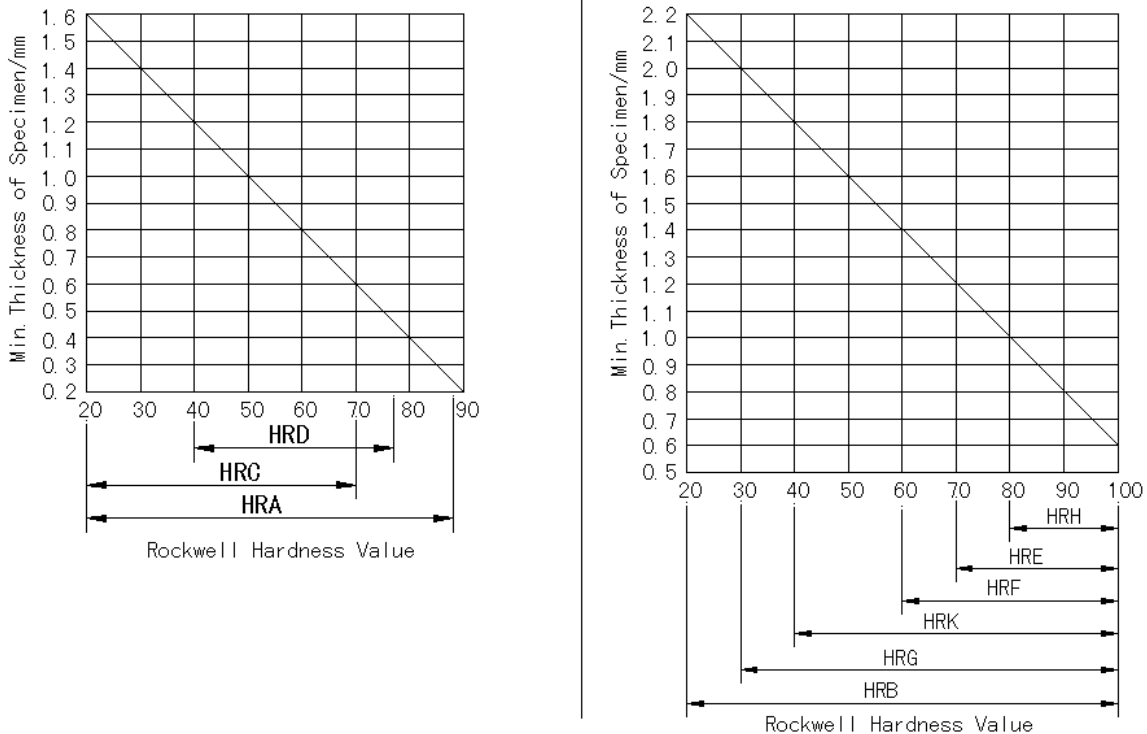

Fig 4-1 Min. thickness of specimen
4.0.2 The Min. thickness of the specimen should be 10 times greater than the depth of the indentation. After the test, the back of the specimen should not have any visible signs of deformation (Fig.4-1).